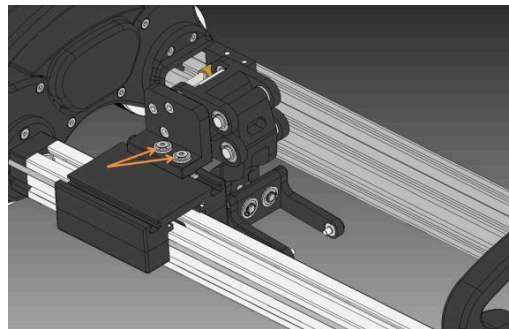

Figure 1
- 2) Loosen the two M4x16 FHCS securing the Probe Guide to the Carriage (Figure 1).